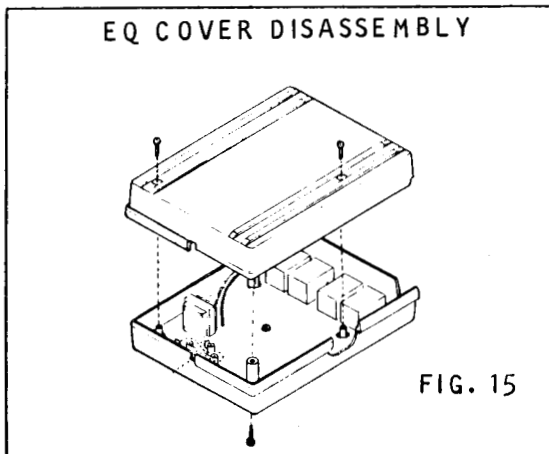

FIG. 15
1. Using a Phillips-head screwdriver, locate and remove the four screws (2 on the top the cover, and 2 located on the bottom cover) holding the covers in place (see Fig. 15).